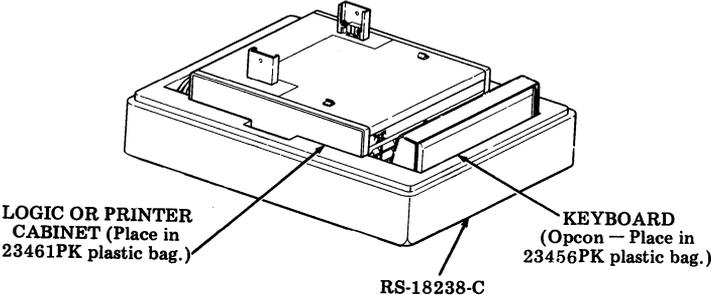

Fig. 10
Step 1. Position logic or printer cabinet in position shown in Fig. 10.